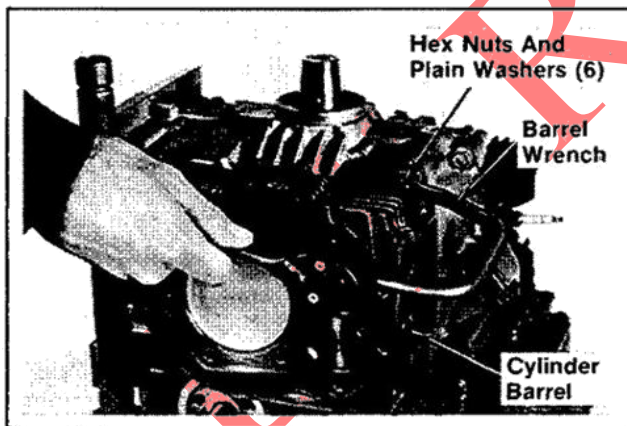

Figure 9-28. Removing Cylinder Barrel Fasteners.
1. Remove the hex nuts and plain washers using the barrel wrench (Tool No. NU-11797). Refer to Figure 9-28.